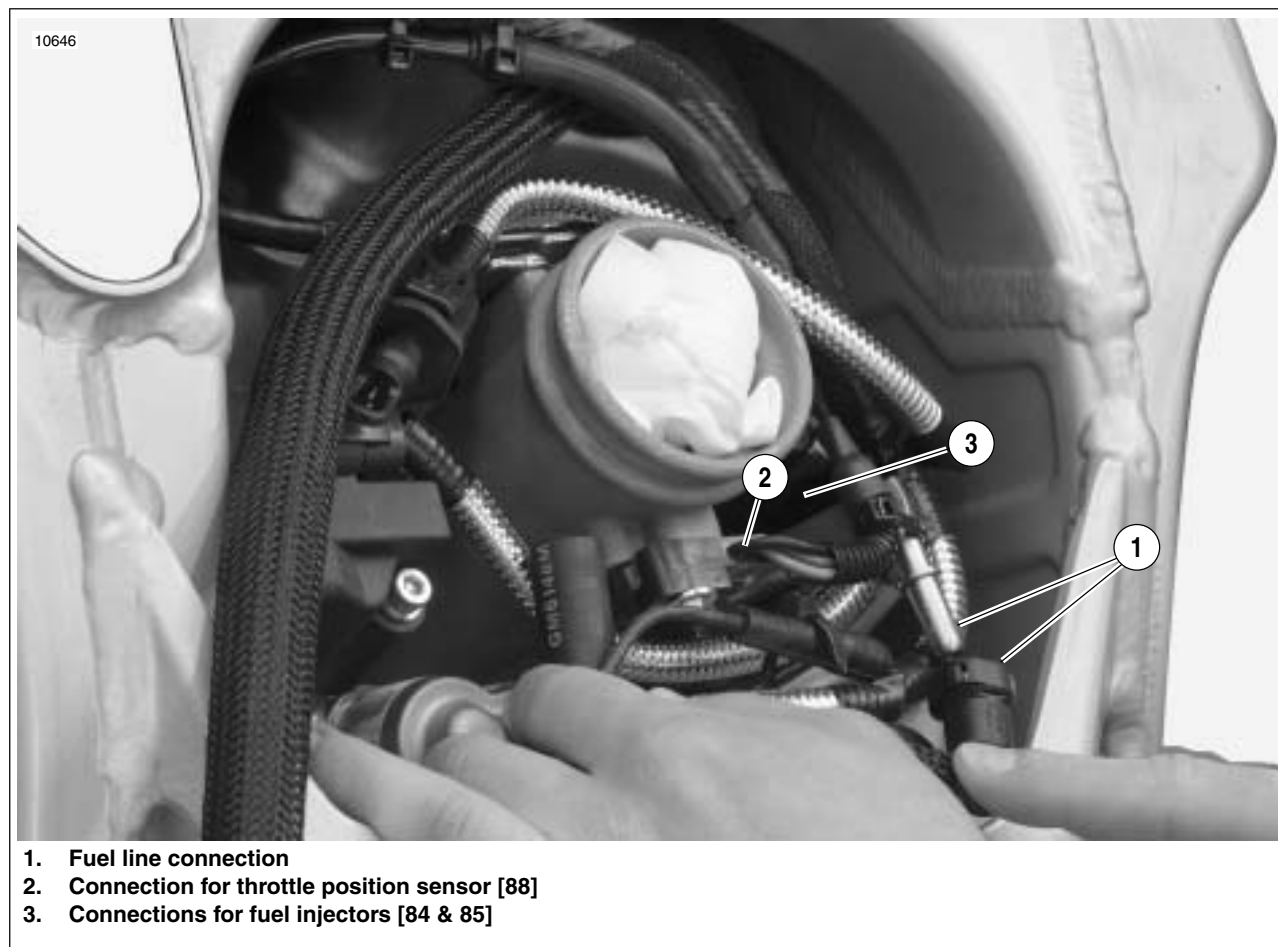

Figure 3-16. Fuel Line and DDFI Electrical Connections (Typical)
7. See Figure 3-16. Disconnect fuel line.
8. Disconnect throttle position sensor (2) [88].
9. Disconnect fuel injector leads (3) [84 & 85].